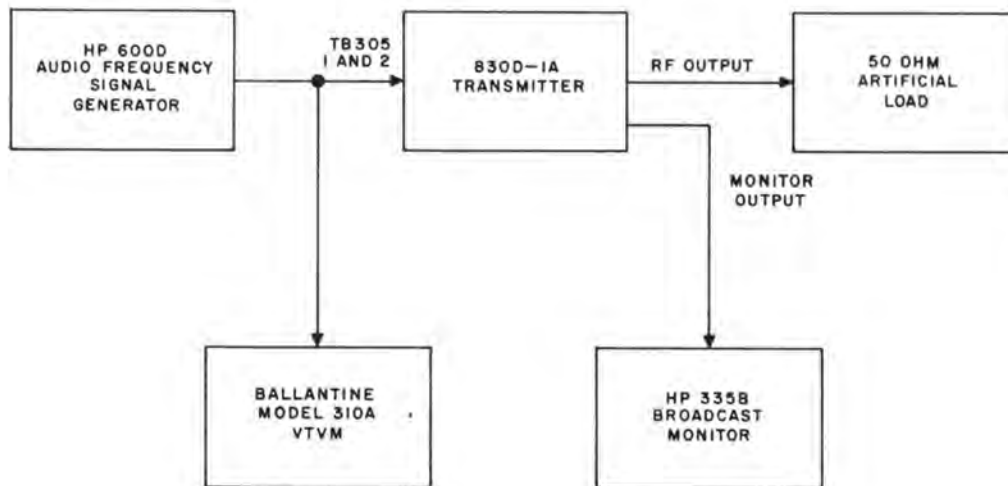

Figure 5-2. Audio Frequency Response Test Setup
a. Refer to figure 5-2. Connect an audio frequency signal generator, such as a Hewlett-Packard Model